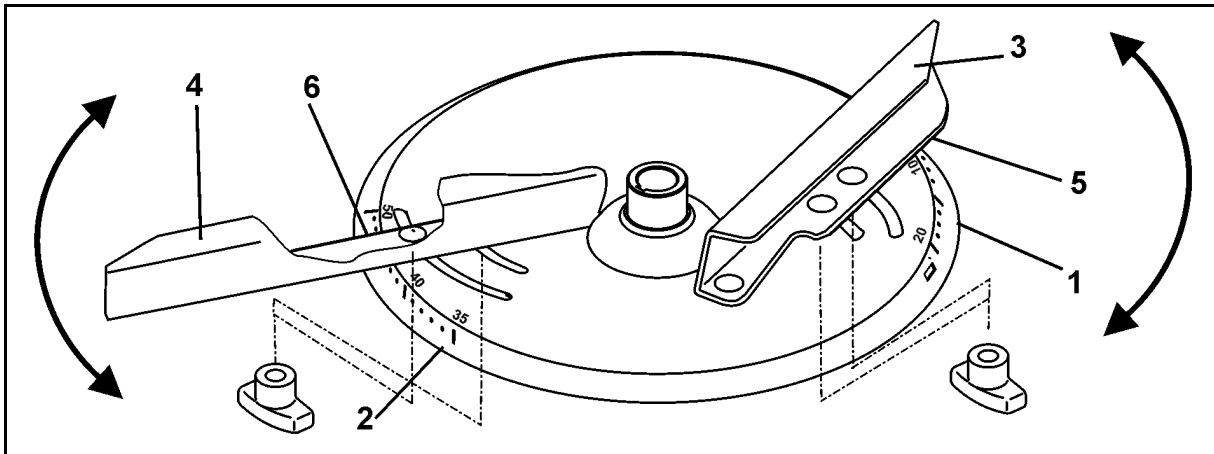

Fig. 54
Two different scales, designed so as to make it impossible to confuse them, are arranged on each spreading disc for precision setting of the individual spreading vane positions (Fig. 54/1 and Fig. 54/2).
- The shorter spreading vanes (Fig. 54/3) are assigned the scale (Fig. 54/1) with values from 5 to 28; the longer spreading vanes (Fig. 54/4) are assigned the scale (Fig. 54/2) with the values from 35 to 55.
- For the short spreading vane (Fig. 54/3), read off the set value on the read-off edge (Fig. 54/5).
- For the long spreading vane (Fig. 54/4), read off the set value on the read-off edge (Fig. 54/6).
- Swivelling the spreading vanes to a higher scale value (Fig. 54/1 or Fig. 54/2) increases the working width.